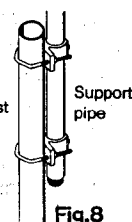

Fig.8
- 8) Attach assembled antenna on mast as shown in the Fig.8. Do not use the mast higher than the radial elements. Installing the antenna, be sure to take whole balance into account.